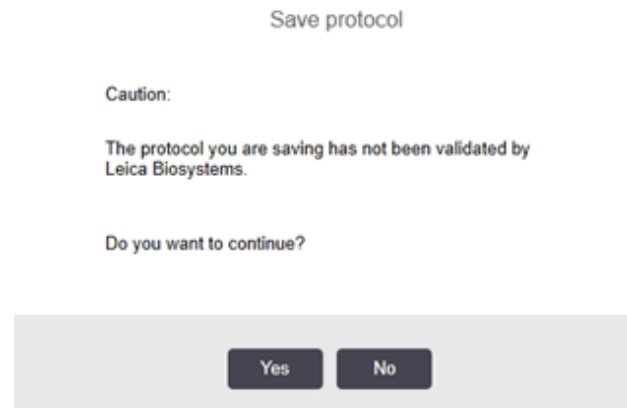

Figure 14: Save protocol notification
6. Read the notification and click **Yes** (see Figure 14).